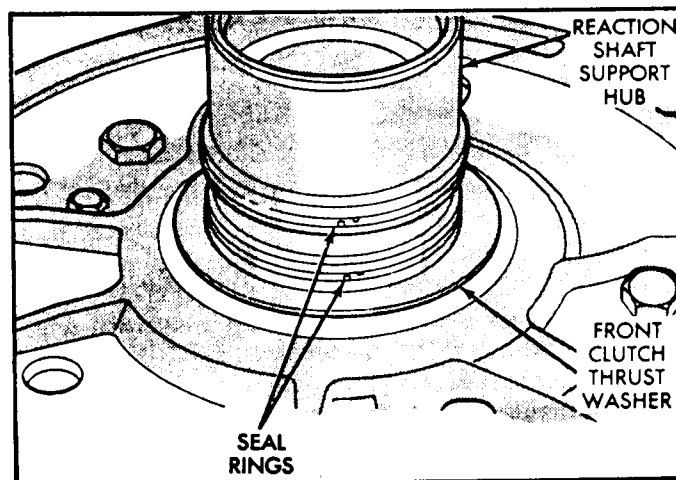

Figure 141
29. Check the sealing rings on preassembled front pump assembly (See Figure 141).